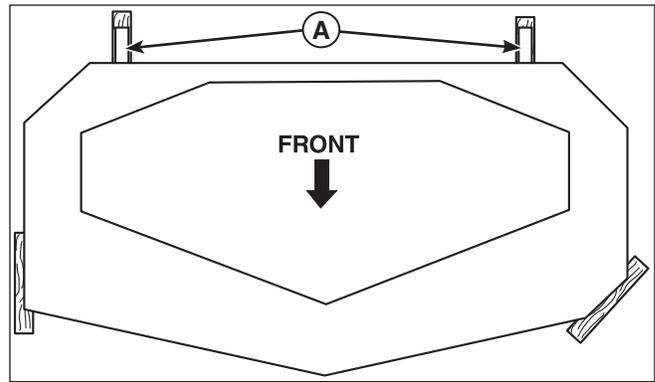

Figure 40. 2 X 4 Locations
3. Place 2 X 4 blocks under each corner of the mower deck with the 3-1/2" sides being vertical. Place a 1/4" (0,64 cm) thick spacer on top of the rear 2 X 4" blocks. See Figure 40.